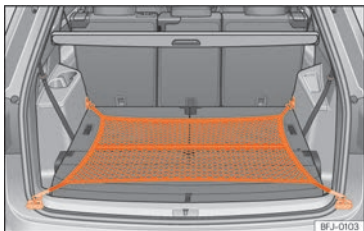

Fig. 128 In the luggage compartment: net bag hooked up at floor level.
- Secure the net hooks to the fastening rings »» **Fig. 128** »» ⚠. The bag zip should be facing upwards.